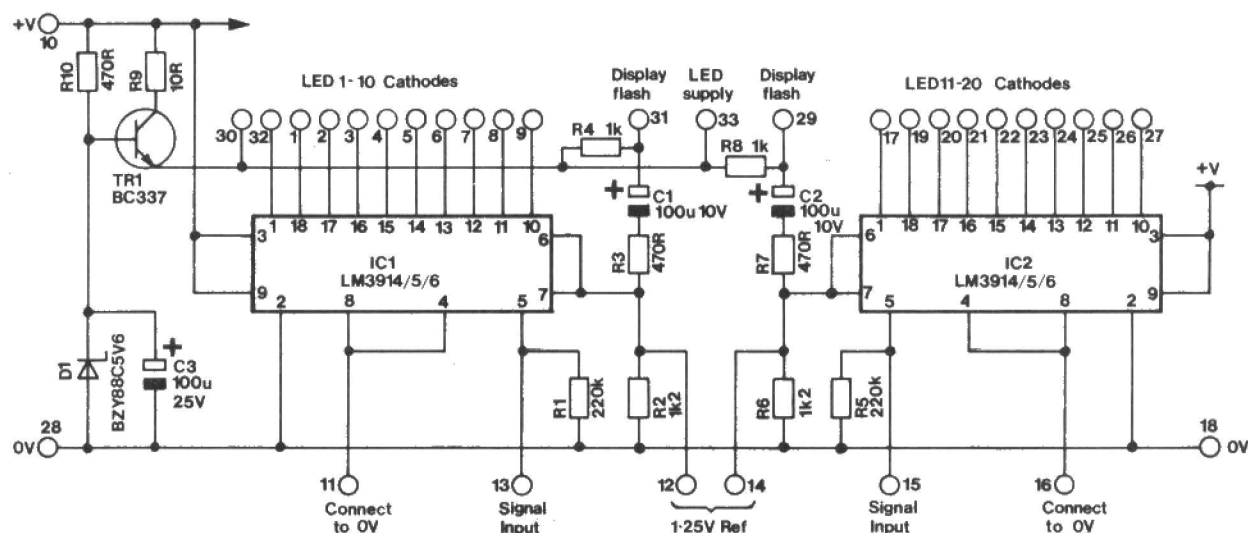

Figure 1. Circuit diagram
IC1 (2) requires very little external components as all LED controlling elements are internal to the IC (see figure 7). Ten comparator output stages control each LED via an internal resistor ladder network, referenced to a 1.25V constant voltage source, and an increasing signal voltage applied to the high impedance voltage follower, switches each comparator in turn. Figure 1 shows the 5V regulator: R10, D1 and TR1, which feeds each anode of LED's 1 to 20. Either single LED's or common anode 10 LED displays can be used here, and R2 determines LED current or brightness. Reducing the value of R2 increases LED current (and vice-versa) and with the recommended value of 1k2, approximately 10mA flows through each LED. PCB pins 4 and 8